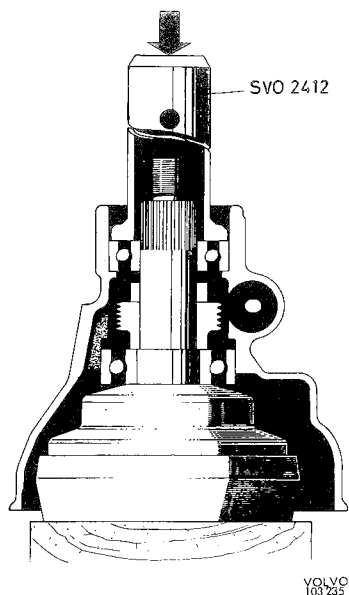

Fig. 4-46. Output shaft installation
3. Place a wooden block under the output as support. Fit the speedometer driving gear and spacer. Press on the rear casing with drift 2412, see Fig. 4-46.